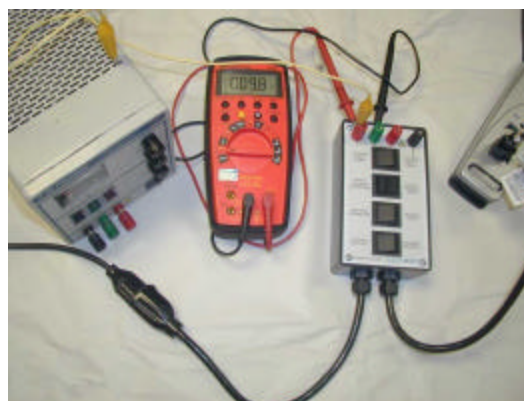

Figure 2 Leakage Current from Appliance to Ground
12. See Figure 2 and Table 2 for a Test Setup synopsis. This section is based on NFPA 99 Fig. 10.2.13.4.1, see below. Please note the EUT in Figure 2 displayed a failing result.